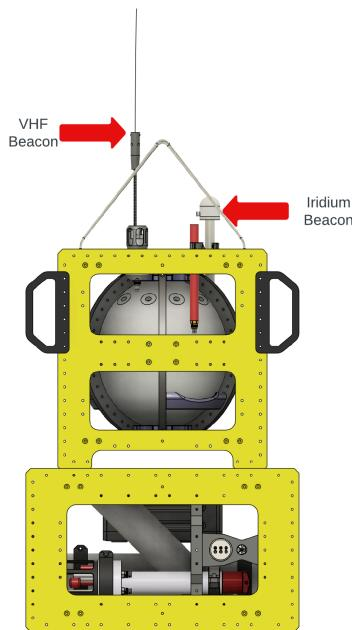

Figure 5.1: Separate magnets must be removed to start both the VHF beacon and the Iridium beacon.
8. Set a VHF receiver to the frequency printed on the Drifter and start VHF and Iridium Beacon by removing the magnets (Figure 5.1). These will be used to verify that the VHF beacon is running and establish at least one Iridium fix.